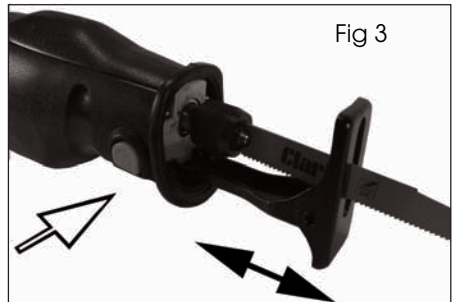

Fig 3
7. If the blade becomes blunt in one section of its cutting edge, reposition the shoe to utilise a sharper, unused portion of the blade. Fig 3 shows the adjustable shoe which can be positioned close to the blade holder and then extended to optimise the use of the blades & extend their useful life.